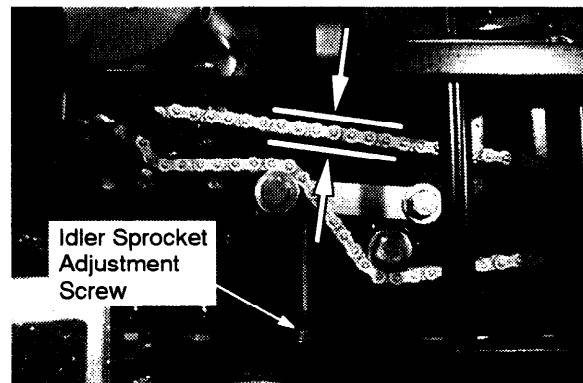

Figure 40
2. Measure amount of chain deflection at location shown below. Proper chain deflection should be approximately 25 mm (1.00 in) total (Fig. 40).
3. To adjust chain tension, loosen jam nut on the idler sprocket adjustment screw and turn screw clockwise to increase tension. Retighten jam nut after adjusting (Fig. 40).